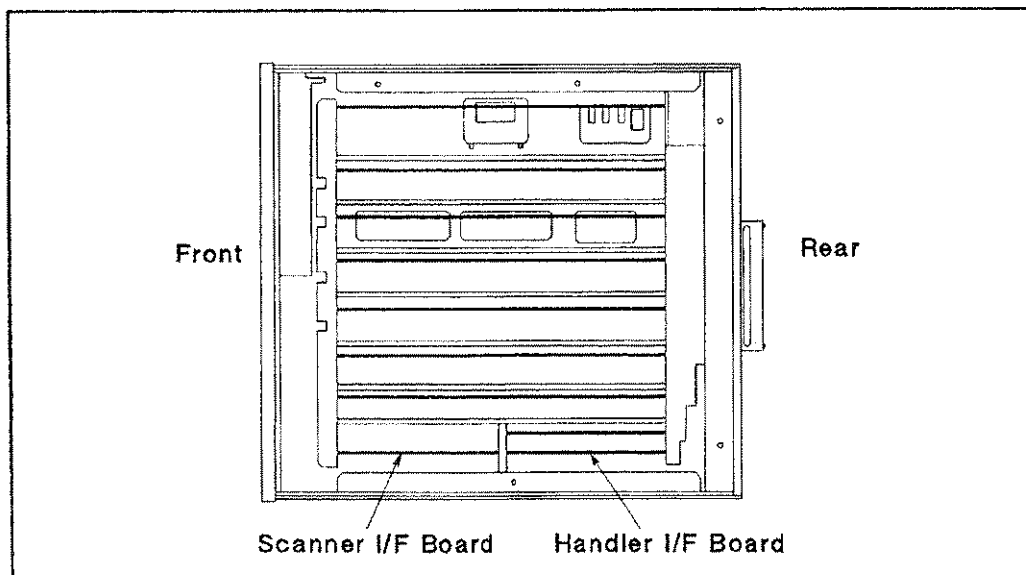

Figure 6-9. Interface Board Location
6. Disconnect the flat cable connected to the handler interface board. The handler interface board is the one with the **BLACK** and **ORANGE** extractors (See Figure 6-9).
2. Disconnect the flat cable connected to the handler interface board. The handler interface board is the one with the **BROWN** and **ORANGE** extractors (See Figure 6-9).
2. Disconnect the flat cable connected to the scanner interface board. The scanner interface board is the one with the **BLACK** and **YELLOW** extractors (See Figure 6-9).